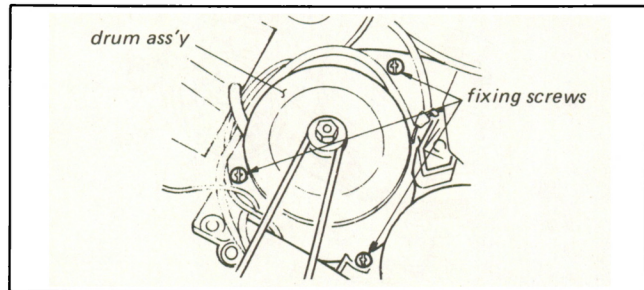

Fig. 5-3. Drum replacement
2. Remove the three screws shown in Fig. 5-3 on the rear of the machine, removing the drum from the chassis.